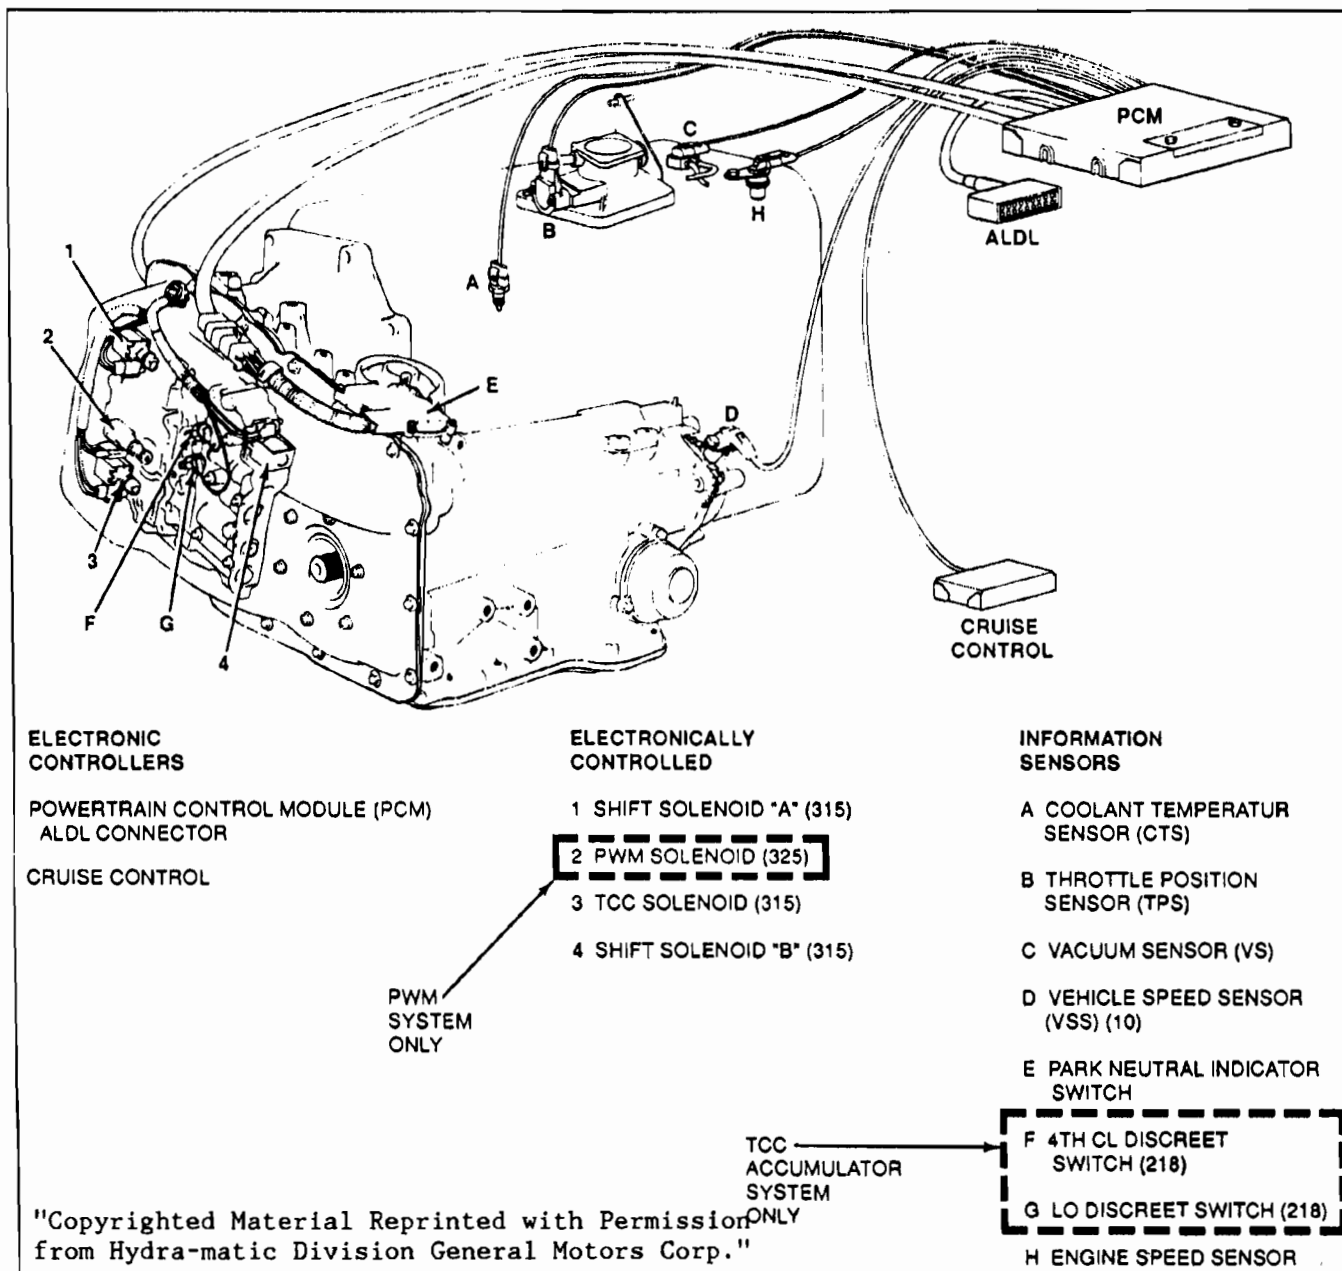
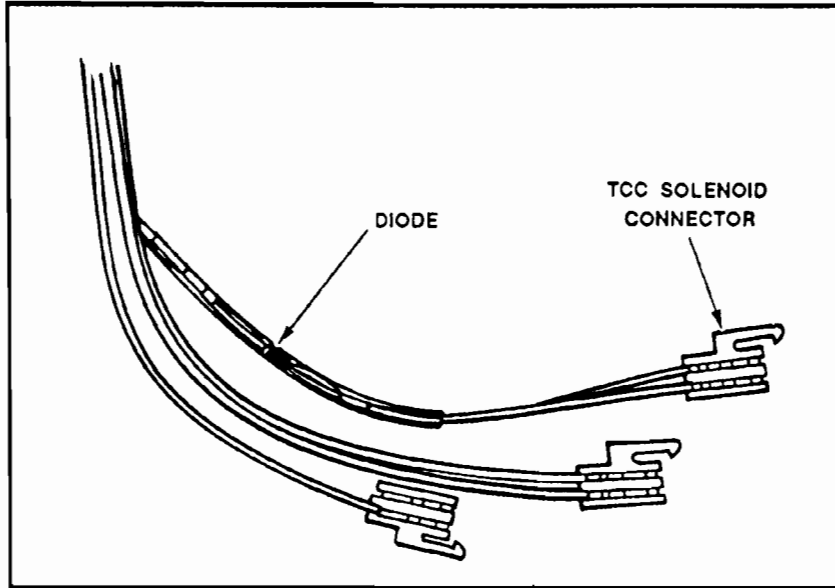

Figure 61
Figure 62
The 4T60-E transaxle incorporates electronic controls that use the Powertrain Control Module (PCM) to command shift points, and Torque Converter Clutch (TCC) apply and release. Electrical signals from the Vehicle Speed Sensor (VSS) (The Governor is Eliminated), Throttle Position Sensor (TPS) (TV Cable is Eliminated), Coolant Temperature Sensor (CTS), Vacuum Sensor (VS), Park/Neutral Indicator Switch, and Engine Speed Sensor (RPM) are sent to the PCM. Refer to Figure 61 for location of the various sensors. The PCM uses this information to determine the precise moment to energize or de-energize shift solenoid "A" and shift solenoid "B", located inside the transaxle on the valve body (Figure 61), to shift the transaxle into the appropriate gear. Refer to Figure 58 for shift solenoid ON and OFF pattern. The PCM also determines apply or release of the converter clutch, by controlling the TCC solenoid. This type of control provides consistent and precise shift points that is based on the operating characteristics of the vehicle. Shift Solenoid "A", Shift Solenoid "B", and the TCC Solenoid are all "Normally Open" solenoids, and close off the exhaust when energized. All three are exactly alike and will interchange with one another. These three solenoids no longer have the diode incorporated inside the solenoid. The diodes for the two shift solenoids are located inside the PCM, and the diode for the TCC solenoid is located inside the transaxle wiring harness (See Figure 62). The diodes protect the PCM from voltage spikes.
Notice also that there is a fourth solenoid on the valve body called a Pulse Width Modulated (PWM) Solenoid (See Figure 61). The PWM solenoid receives a ground signal from the Powertrain Control Module (PCM). This ground signal is pulse width modulated (Variable), depending on throttle opening (TPS), and controls the amount of line pressure sent to the back side of the TCC Regulator Valve and thus control converter clutch apply "Feel". This provides for accurate control of the actual value of regulated converter apply pressure. For failure mode considerations the PWM is normally open. This means that when the PWM solenoid is OFF (No Voltage), the PWM supply port is open to the PWM output port. This results in a maximum TCC apply pressure when the PWM is OFF. In the unlikely event that the PWM has failed, or is disconnected, and the TCC enable solenoid is still operated, the TCC/VCC will be applied with maximum pressure.